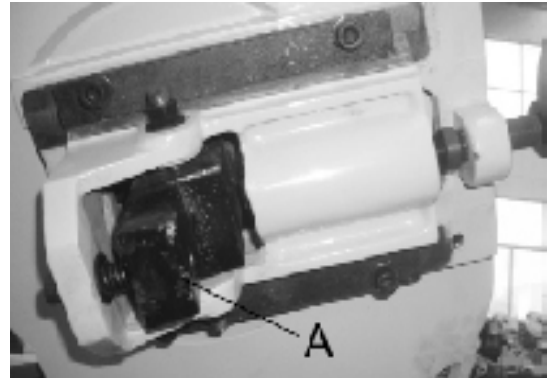

Fig.9
Make sure the blade is tensioned correctly before checking or adjusting. The blade is tracking properly when the back of the blade is just lightly touching the wheel flanges of both wheels while the machine is dunning. If the blade is not touching the wheel flanges tighten or loosen screw (A) Fig.9. Until the blade tracks properly.